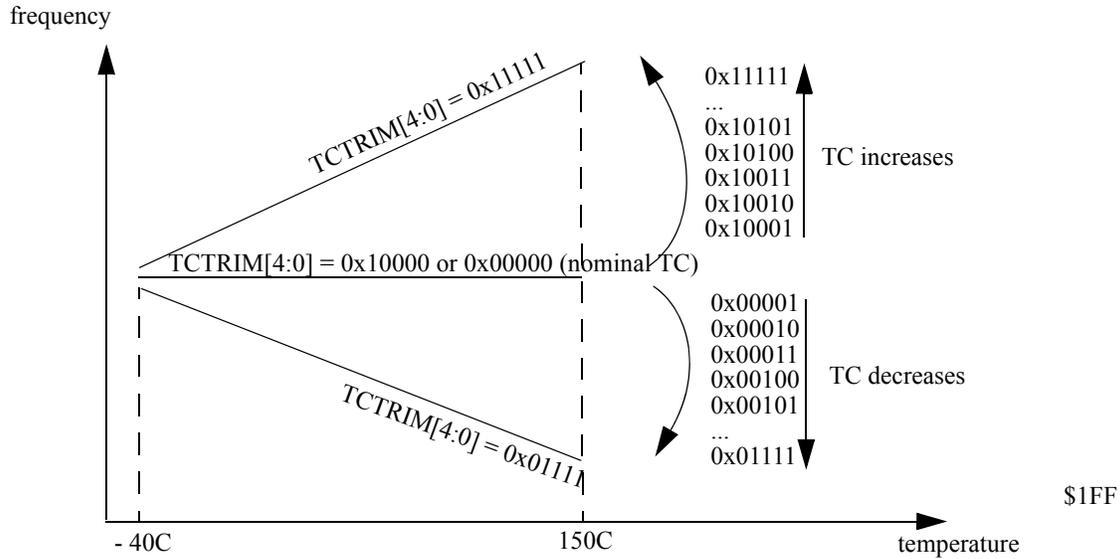

Figure 86. Influence of TCTRIM[4:0] on the Temperature Coefficient
15-11 TCTRIM	<p>IRC1M temperature coefficient Trim Bits Trim bits for the Temperature Coefficient (TC) of the IRC1M frequency. Figure 86 shows the influence of the bits TCTRIM[4:0] on the relationship between frequency and temperature. Figure 86 shows an approximate TC variation, relative to the nominal TC of the IRC1M (i.e. for TCTRIM[4:0]=0x00000 or 0x10000).</p>